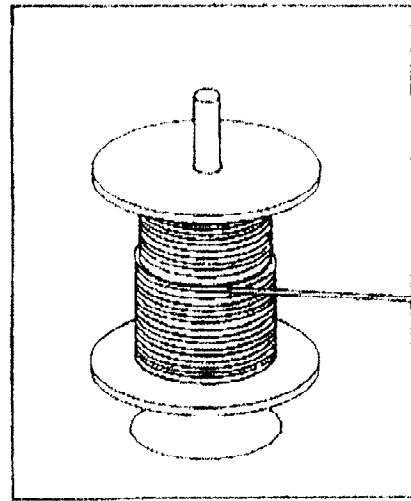

FIGURE 2
2. The reel may also be mounted on a unreeling stand. (See Fig. 2.) It can then be unwound as above. However, extra care must be exercised to keep the cable under sufficient back-tension. If slack accumulates and the cable drops below the lower reel-head, kinks will form. Solid back tension will also assure tight spooling onto the winding drum for initial service.